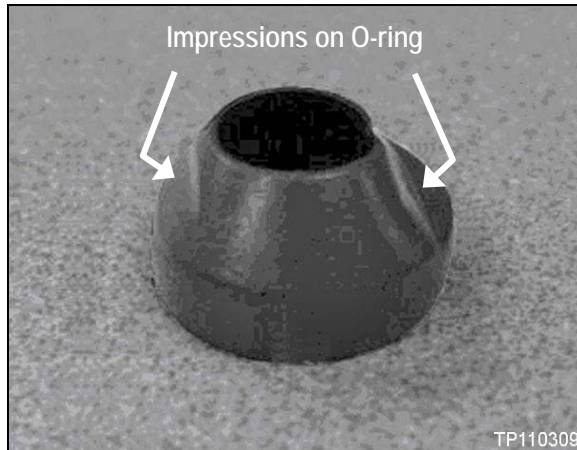

Figure 3c
3. If impressions are found on either O-ring (see example in Figure 3c):